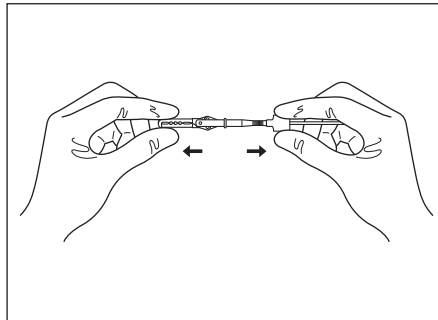

Figure 3.4
2. Pull the distal end of the alligator unit with a light force and confirm that it is attached firmly (see Figure 3.4).